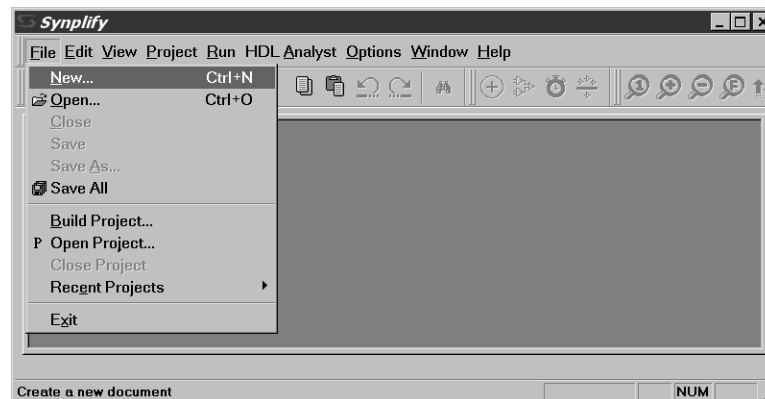

Figure 5-9: Create a New Project
1. Start Synplify and choose File > New (Figure 5-9), or use the new file icon on the tool bar. The New dialog appears.